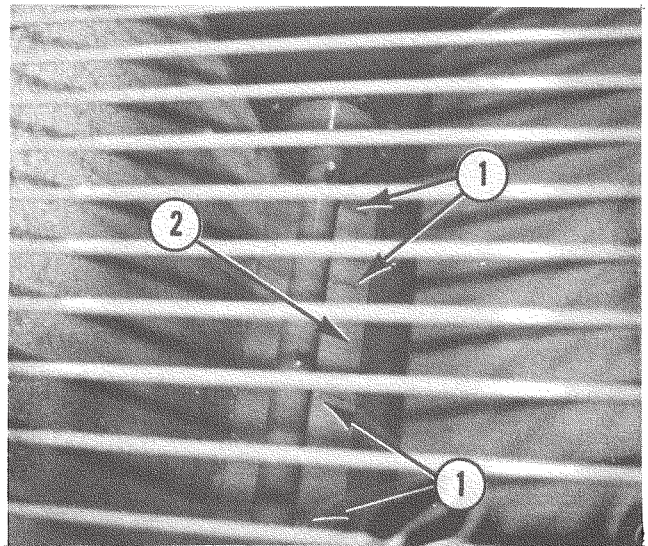

Figure 19. Spread Roll Wear Plate
1. Loosen all spread roll wear plate hold down bolts (Figure 19) and adjust the wear plate until a nominal $\frac{1}{16}$ ” clearance exists between the wear plate and the spread roll for the entire hopper width.